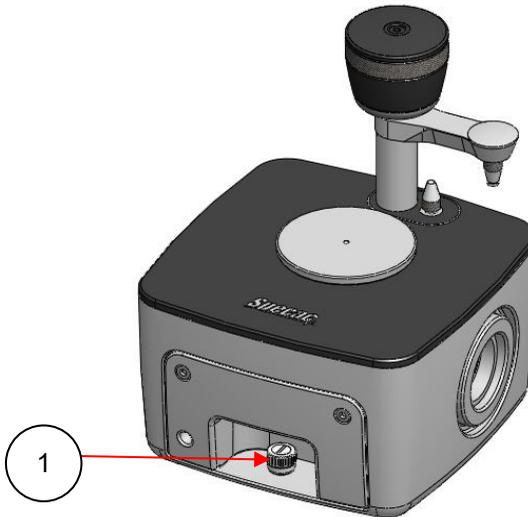

Figure 5-1: Quest ATR Accessory – Optical Unit and ATR Puck Assembly
- 1) Optical unit thumb screw. (Figure 5-1).